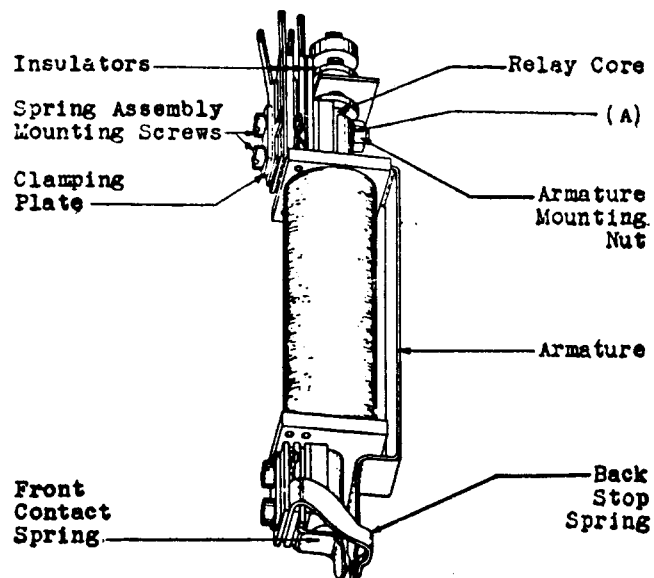

Fig. 2 - 194-type Relay
2.09 Relay Mounting: Fig. 2(A) — The armature shall be fastened securely to the relay core and the relay shall be fastened securely to the mounting strip.